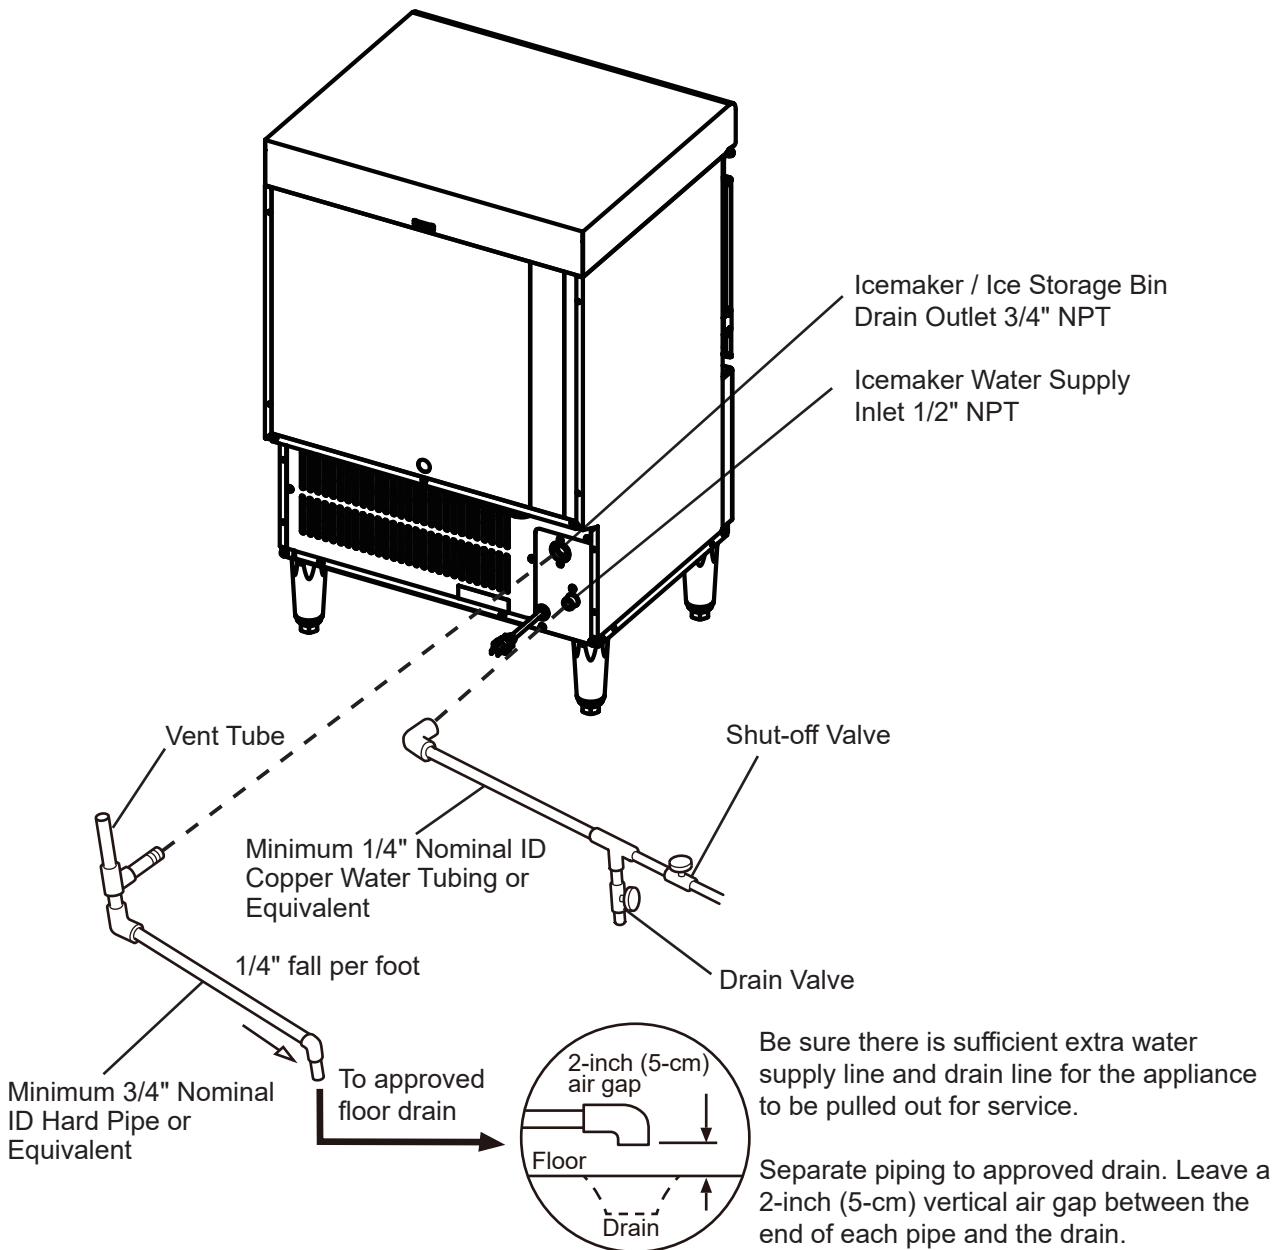

Fig. 4
F. Water Supply and Drain Connections - See Fig. 4
- (1) Remove the ice plate.
- (2) Remove the shaft.
- (3) Pull off the ice guide towards you.
- 7) Close the icemaker water supply line shut-off valve. See Fig. 4.
- 11) Open the icemaker water supply line shut-off valve. See Fig. 4.